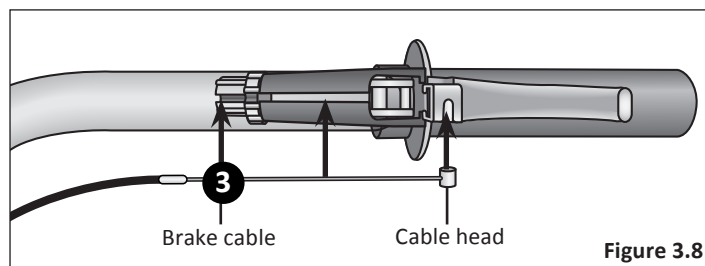

Figure 3.8
- 3** Slide the brake cable through the slots and place the cable head into the brake lever. **Figure 3.8**